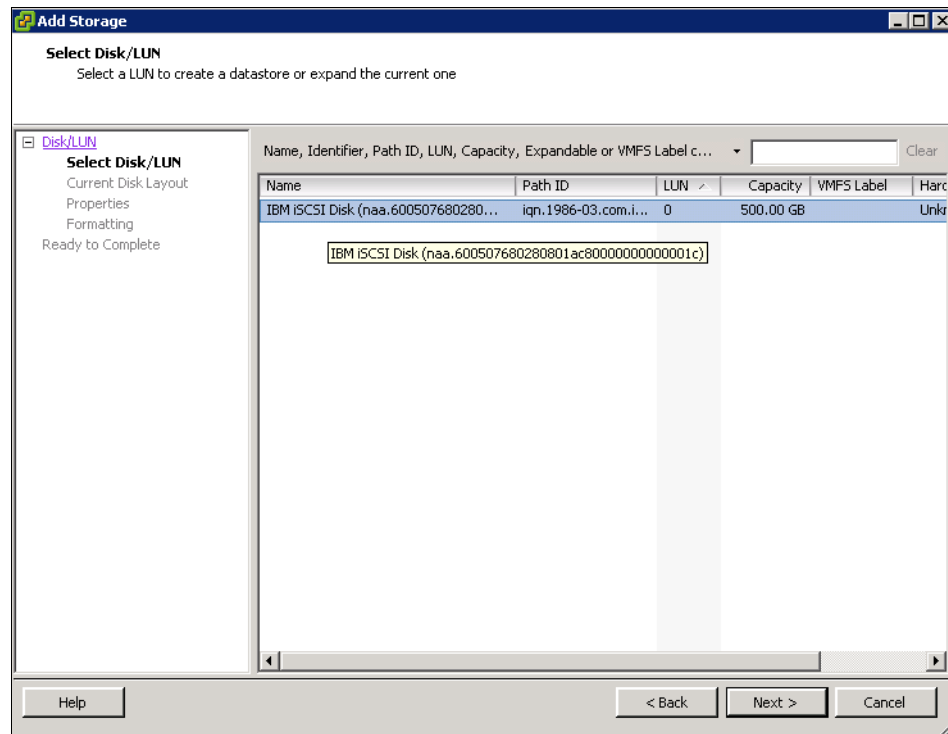

Figure 12-53 Select iSCSI LUN menu
8. The new iSCSI LUN displays. Highlight it and click **Next** (Figure 12-53).